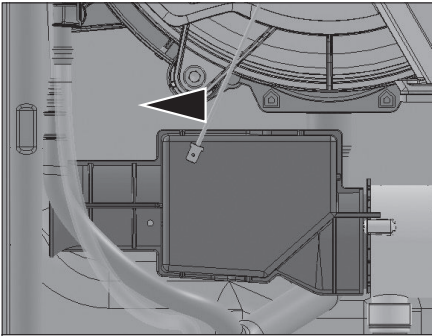

Figure 5 - Remove the silencer
The boiler gas valve is equipped with a Line Pressure Test Port; see screw 1, Figure 5. Use the following procedure to measure the gas line pressure to the boiler to ensure it falls within the range given in Table 2:
- b. Loosen screw **1 (Torx 10 - Line Pressure Test Port)**. This port is directly connected to the gas line feeding the boiler. See screw 1, Figure 5.